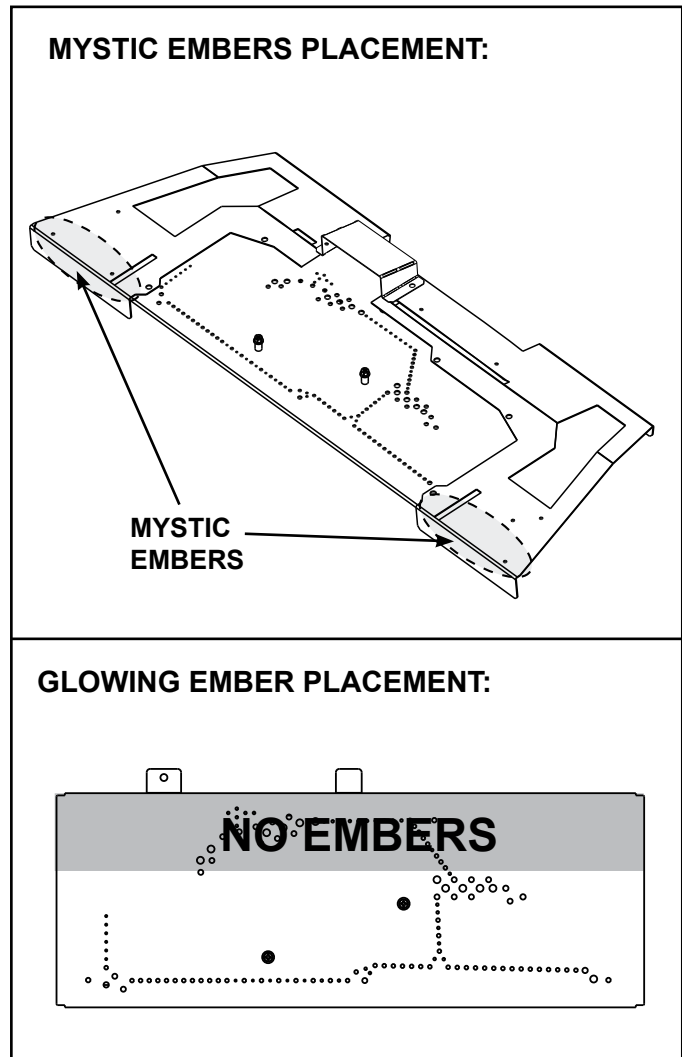

Figure 9.3 Placement of Embers
- Embers CANNOT be placed in the shaded area as shown in Figure 9.3.